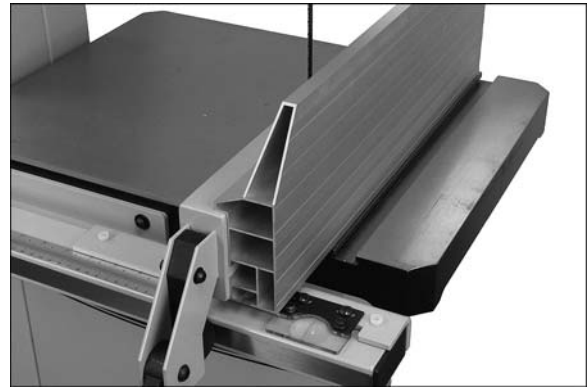

Figure 12
Refer to Figures 12 through 14.
1. Slide fence to edge of miter slot, as shown in Figure 12. The fence should align with miter slot along its entire length.